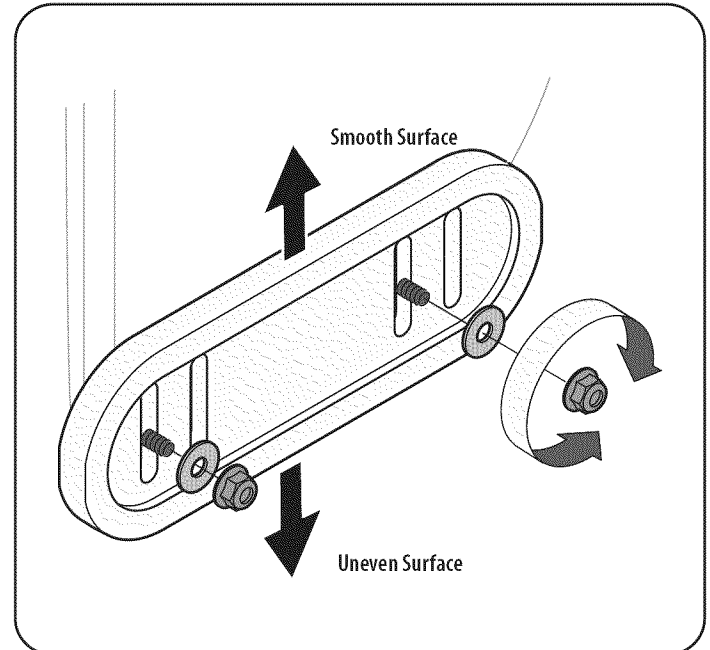

Figure 16
- For close snow removal on a smooth surface, raise skid shoes higher on the auger housing. Refer to Figure 16.
1. Loosen the four hex nuts (two on each side), flat washers, and carriage bolts. Move skid shoes to desired position. See Figure 16.